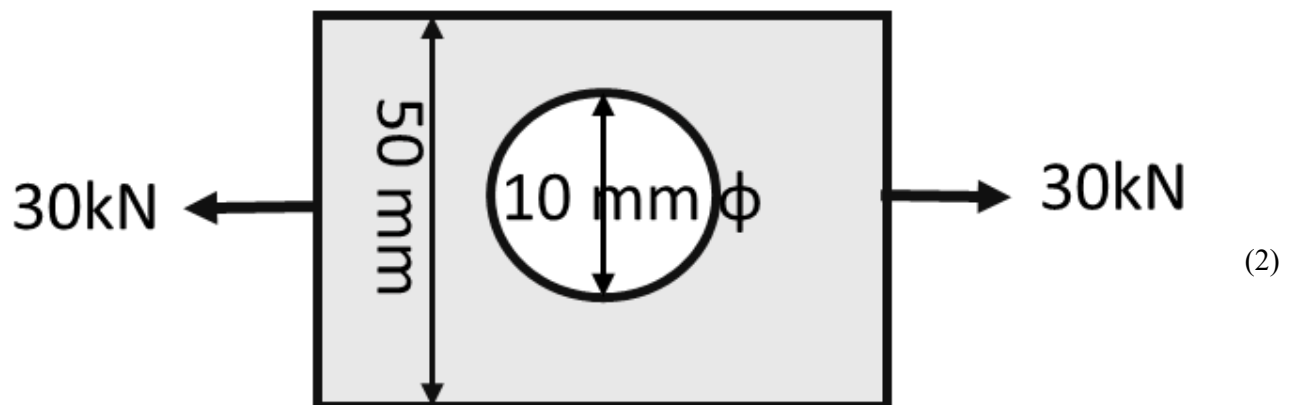

Figure 3
- C) A plate made of steel having allowable tensile stress 200 MPa is subjected to axial loading as shown in figure 3. Determine the thickness of plate.